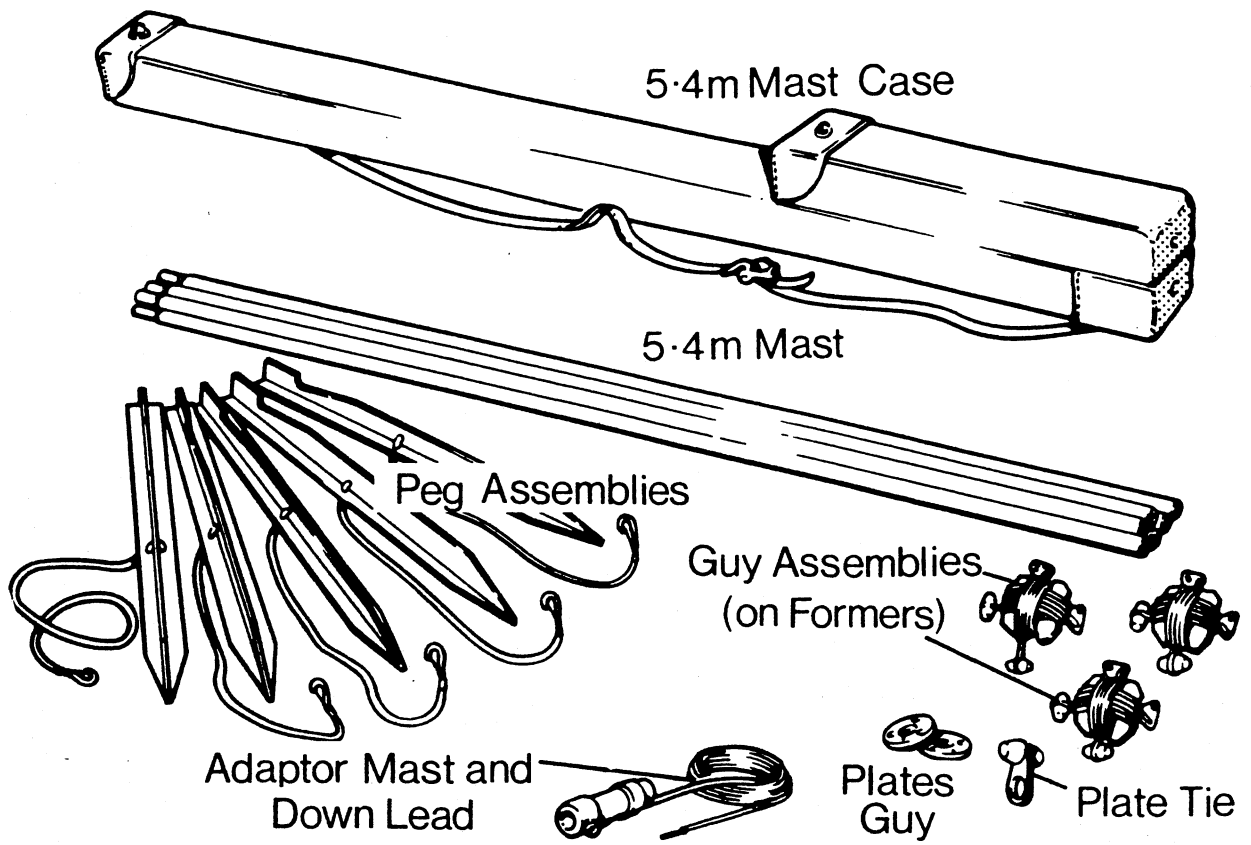

Fig 97.—5.4m Mast - Components
(1) Height when erected	5.4m
(2) Length in carrying case	9m
(3) Weight	4.9kg
b. *Components (Fig 97)*